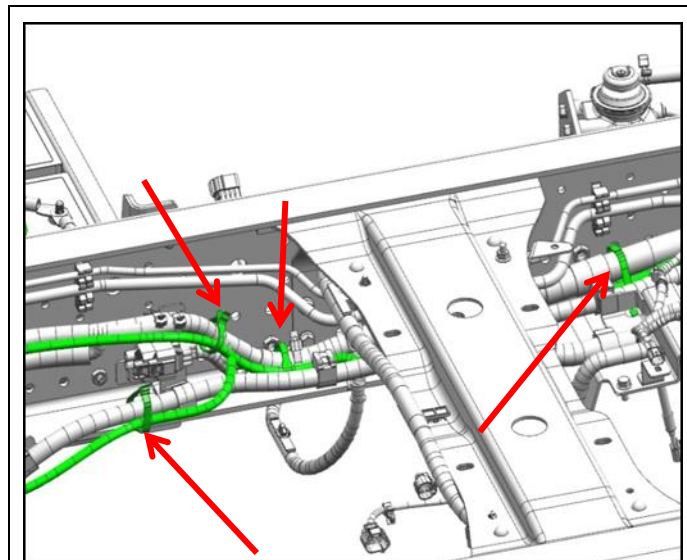

Figure 37
15. Continue routing the DFT harness towards the rear and secure it to the chassis harness with four (4) tie straps at the four (4) locations (before the batteries) specified in Figure 37.